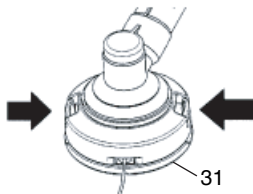

Fig. 37
- (1) Remove the case (31) by firmly pushing inward the locking tabs with your thumbs as shown in Fig. 37.